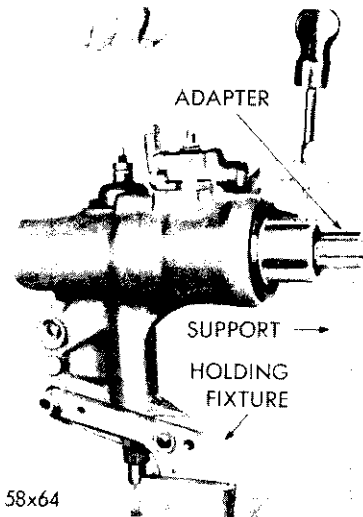

Fig. 24—Removing Coupling Pin
NOTE: Prior to disassembly, clean the gear assembly thoroughly in a suitable solvent and install the unit in the holding fixture C-3323 (Fig. 24).
(1) Drain the steering gear through the pressure and return connections by turning the steering tube coupling from one extreme of travel to the other.
(2) Align the coupling pin with the holes in steering column jacket support and remove the coupling pin (Fig. 24).